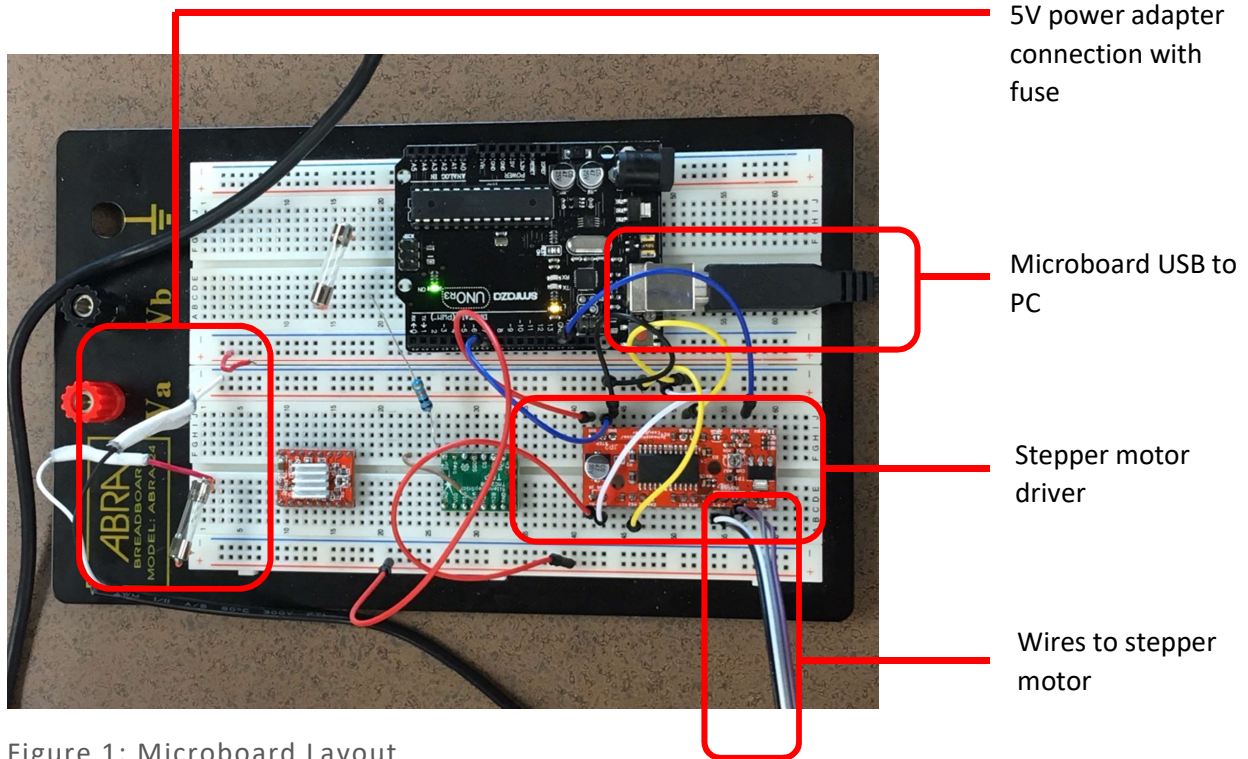

Figure 1: Microboard Layout
2.1. Ensure circuit laid out as shown in Figure 1 below